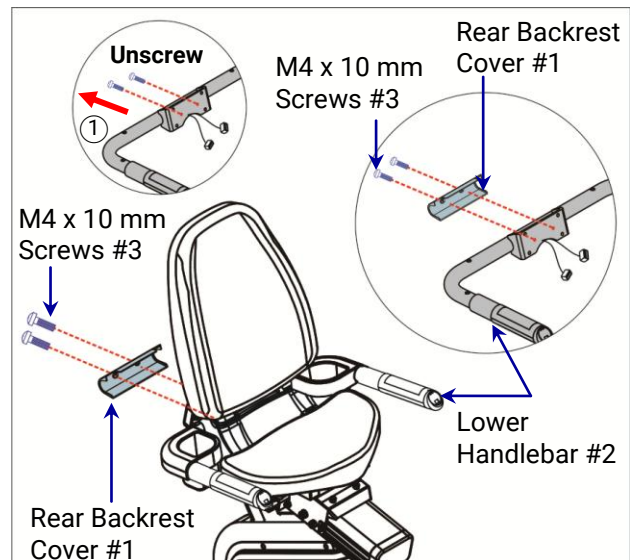

Fig 2.5-16
- 1) Unscrew the (2) pre-locked screws. (Fig 2.5-16, ①)
- 2) Attach the **Rear Backrest Cover #1** to the **Lower Handlebar #2** using (2) **M4 x 10 mm Screws #3** (pre-locked screws) with the provided 5mm Allen Wrench. (Fig 2.5-16, ②)